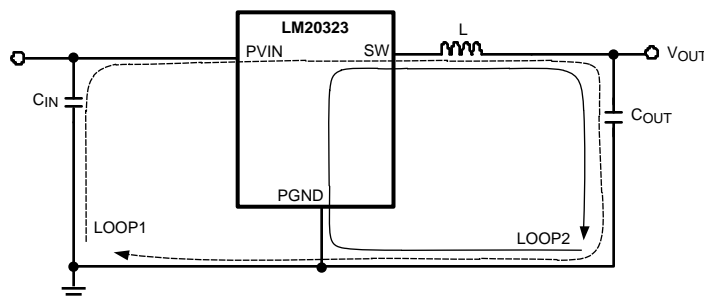

Figure 33. Schematic of LM20323 Highlighting Layout Sensitive Nodes
1. Minimize area of switched current loops. In a buck regulator there are two loops where currents are switched at high slew rates. The first loop starts from the input capacitor, to the regulator VIN pin, to the regulator SW pin, to the inductor then out to the output capacitor and load. The second loop starts from the output capacitor ground, to the regulator GND pins, to the inductor and then out to the load (see Figure 33). To minimize both loop areas the input capacitor should be placed as close as possible to the VIN pin. Grounding for both the input and output capacitor should consist of a small localized top side plane that connects to GND and the exposed pad (EP). The inductor should be placed as close as possible to the SW pin and output capacitor.